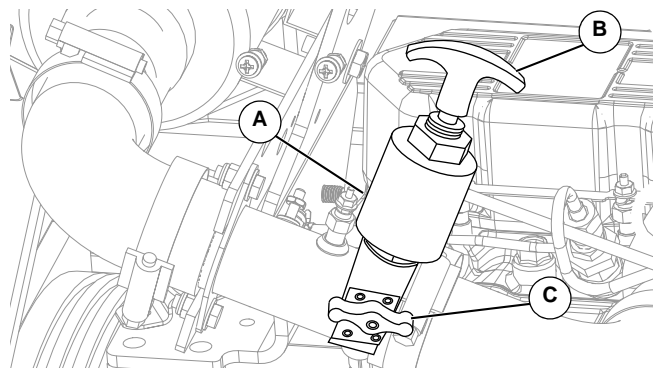

Figure 2-6. Positive Air Shutdown
See Figure 2-6. This unit may be equipped with a positive air shutdown (A) on the air intake. The PAS system automatically stops the engine if speed exceeds 2100 rpm. Engine overspeed can occur if the atmosphere contains elevated levels of combustible propane or natural gas.